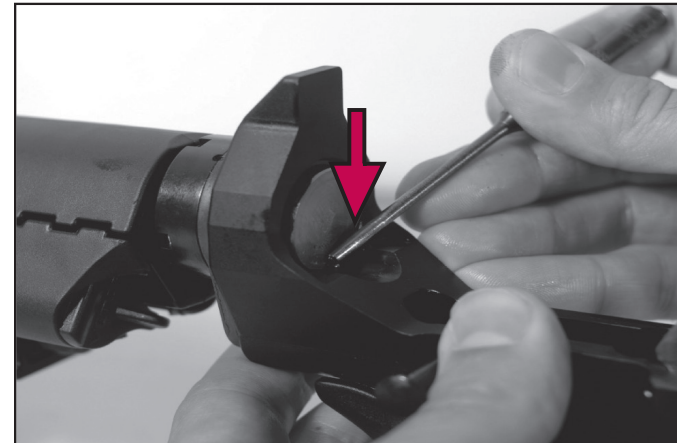
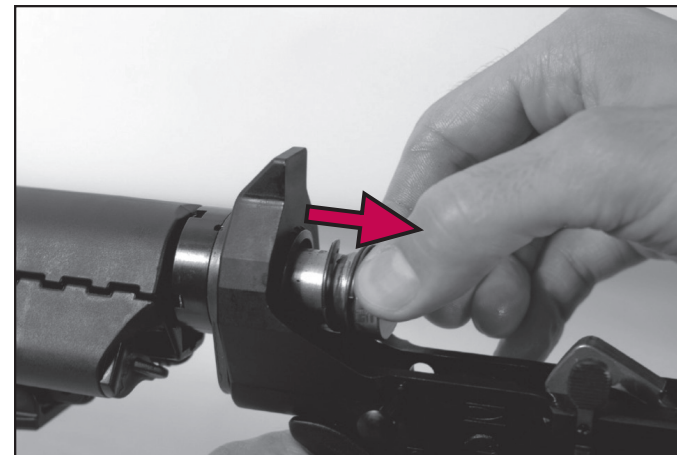

Fig. 6C: Depress the Buffer Detent
Fig. 6D: Remove Recoil Buffer and Recoil Spring
6.1.5 Remove the Buffer and Buffer/Recoil Spring by depressing the buffer detent (Fig. 6c) Pull the buffer and spring from the lower receiver (Fig. 6d).